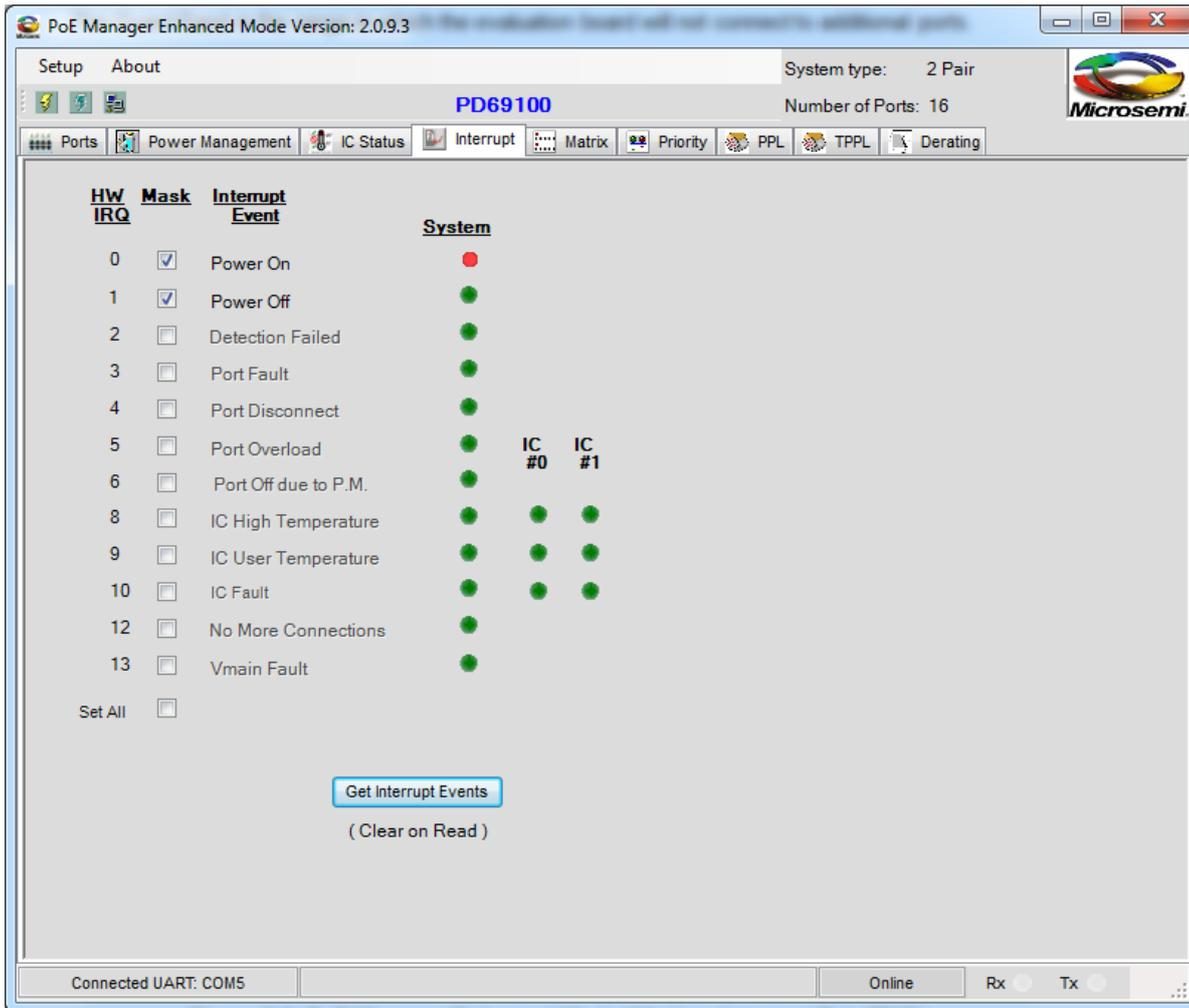

Figure 5-3: PoE Manager Enhanced Mode Window, Interrupt Tab (EMO)
- On the PoE Manager Enhanced Mode window, click the **Interrupt tab**. The following screen appears (Figure 5-3):